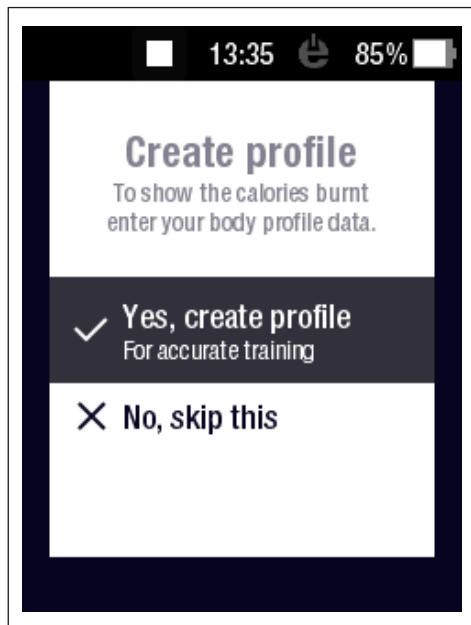
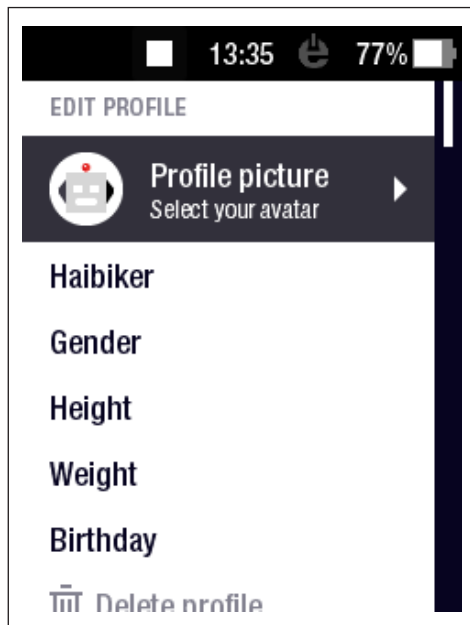

Fig. 47: Creating profile
Fig. 48: Data input for profile
- ▶ Create a profile with your data (profile picture, name, gender, height, weight and birthday) to personalise your pedelec (see Fig. 47 and Fig. 48). If you wish, you can skip this step and complete it later.